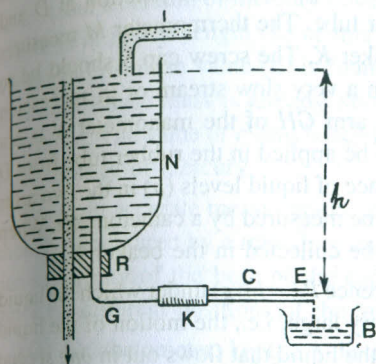

Fig. 2.13-1
• **Apparatus : First arrangement :** The apparatus employed to determine the coefficient of viscosity of a liquid is shown in Fig. 2.13-1. It consists of